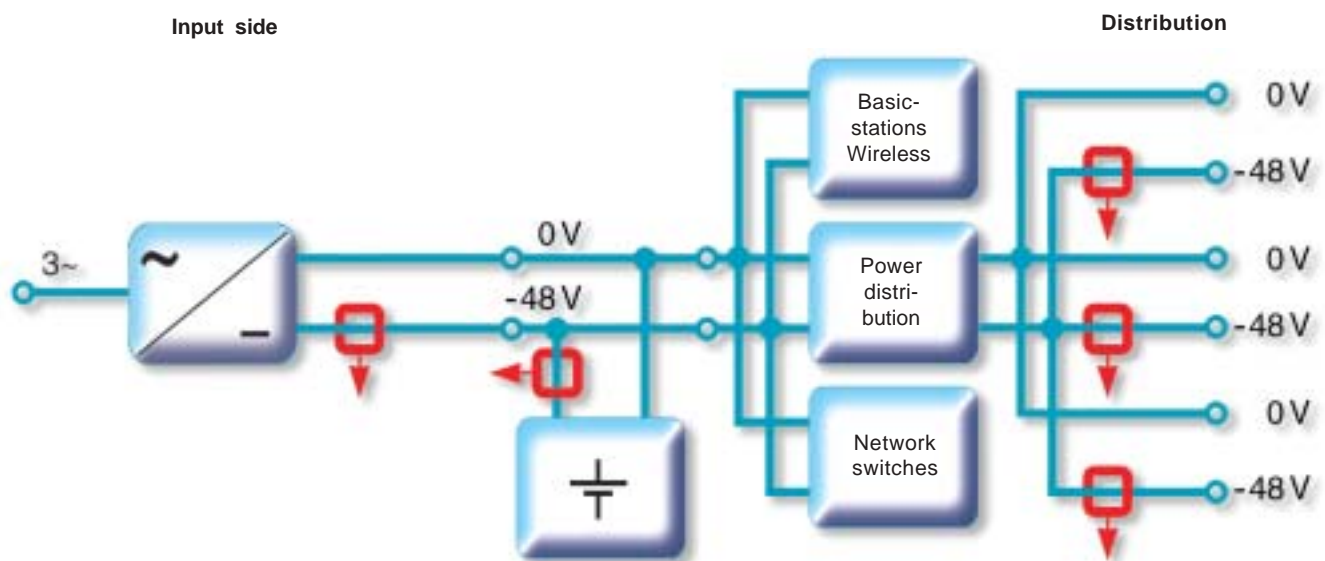

Fig.10: Current measurements in TeleCom power supply applications
(Fig. 10, left side of a large three phase rectifier)
2. Battery banks are installed to backup the switches. The battery bank currents for charge and discharge range from 200A to 1000A, and are typically monitored using resistive shunts. The trend is to replace these shunts with current transducers, due to the insertion losses of resistive shunts. Ideally, split core transducers can be used for ease and speed of installation. This is a **Battery Monitoring application** (Fig. 10)
3. LEM split core current transducers are also used to measure output current in Telecom Power Distribution applications, where current levels from 30A to 100A are present. (Fig. 10, right side).